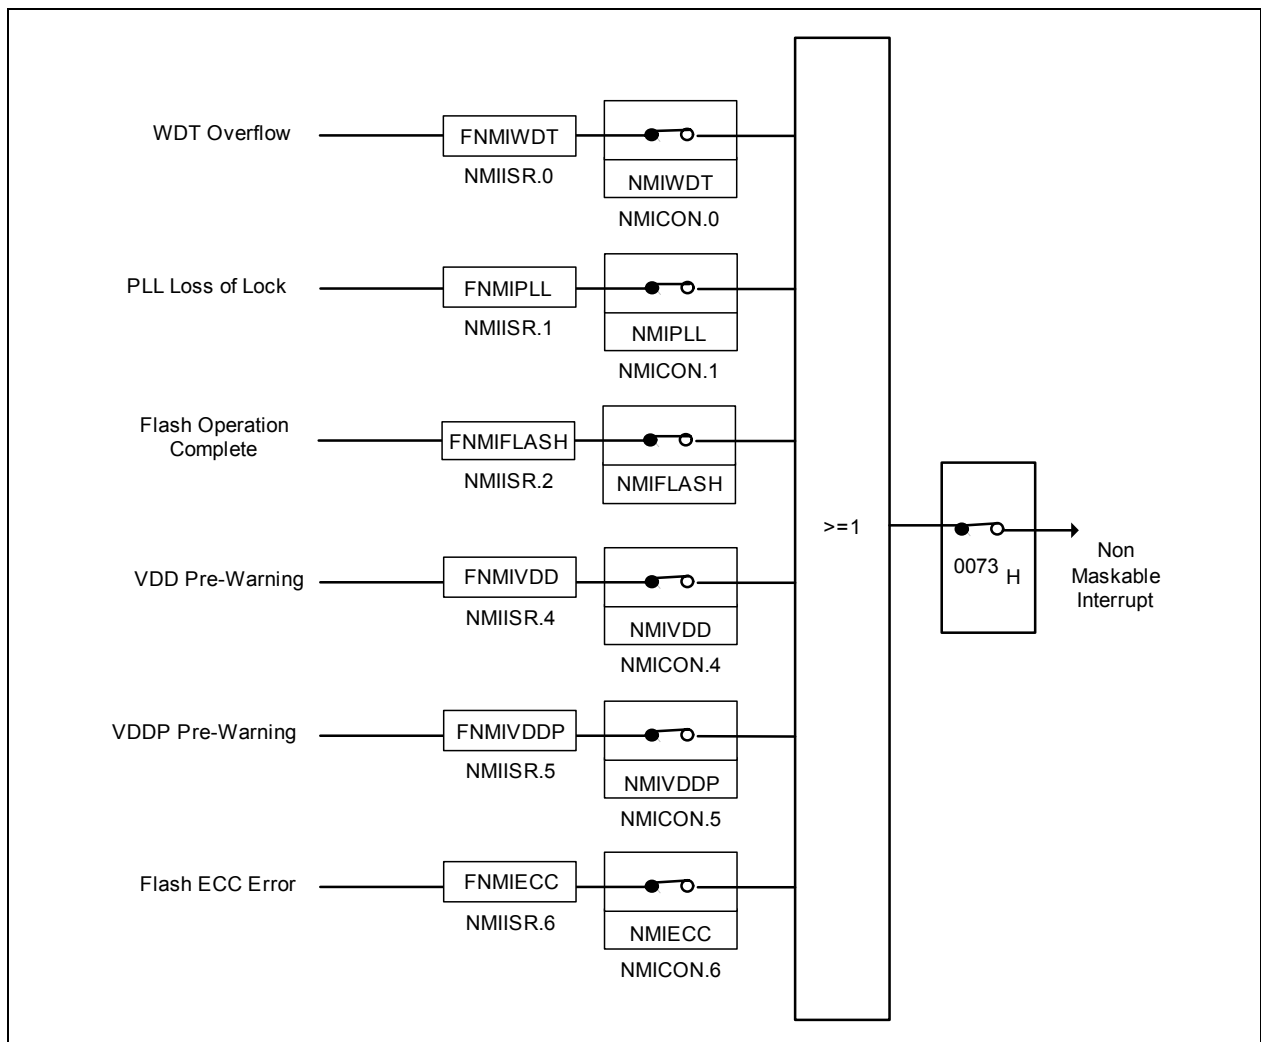

**Figure 13 Non-Maskable Interrupt Request Sources**
**Figure 13** to **Figure 17** give a general overview of the interrupt sources and nodes, and their corresponding control and status flags.